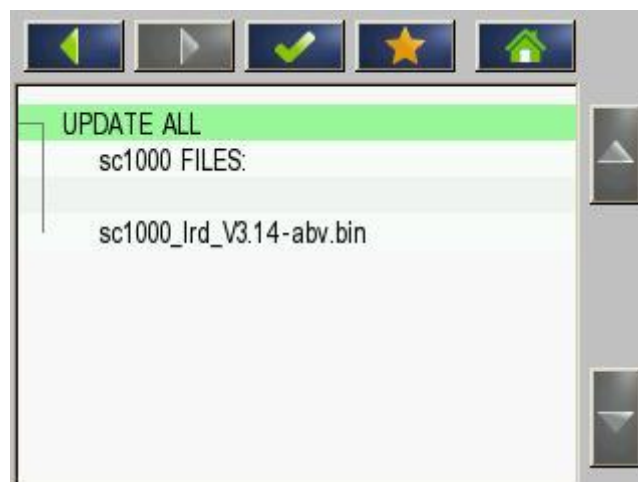
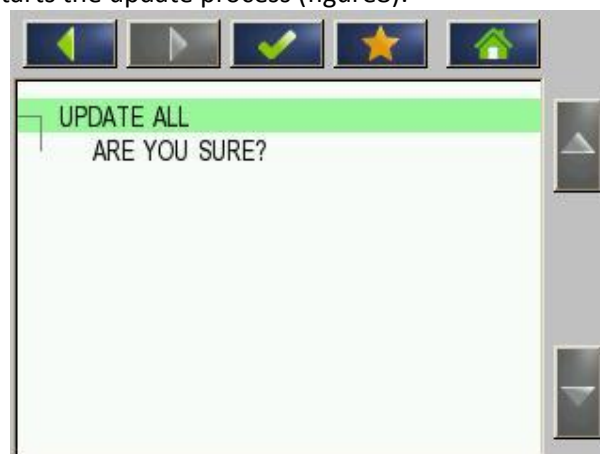

figure6: sc1000 Software Update menu
figure8: Confirmation menu before Updates start
- In menu (figure6: sc1000 Software Update menu) press the <OK> button to get to the final confirmation, which starts the update process (figure8):